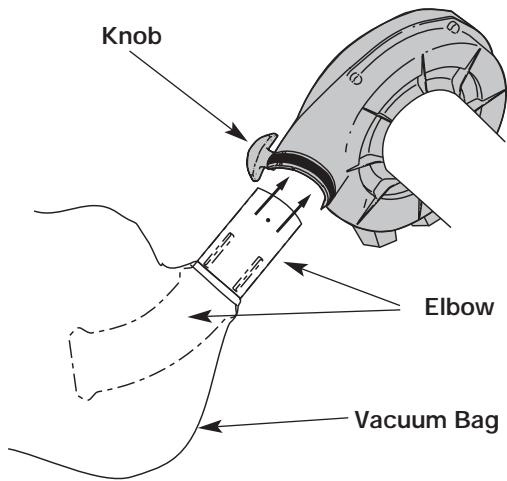

Fig. 1
3. Install the bag elbow and tighten the knob clockwise (Fig. 1).